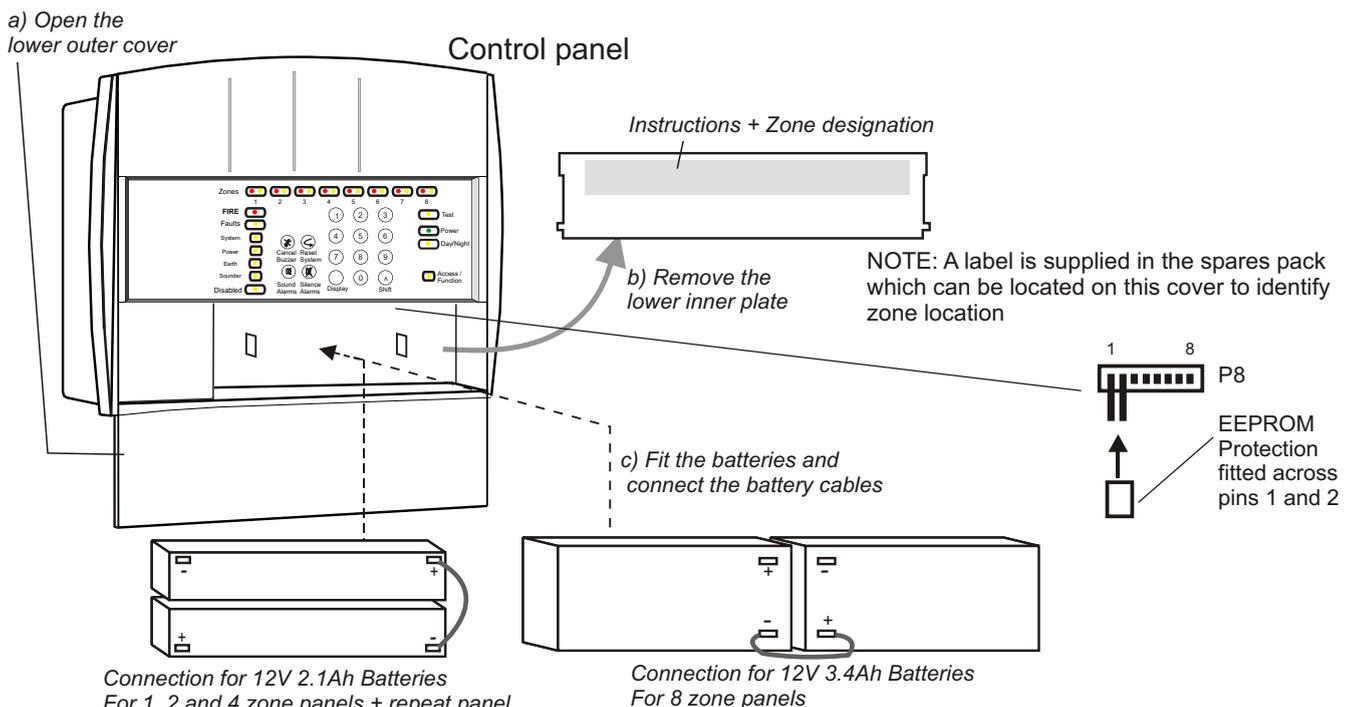

Figure 14 Battery installation and EEPROM protection link
- Remove the EEPROM protection link from connector P8, see Figure 14.
- d) Now connect the battery supply, see Figure 14.
NOTE: Ensure that at the end of Commissioning and System tests the EEPROM protection link is fitted to connector P8, see Figure 14.
- b) Fix the label over the zone designation part of the lower inner plate, see *Figure 14*.